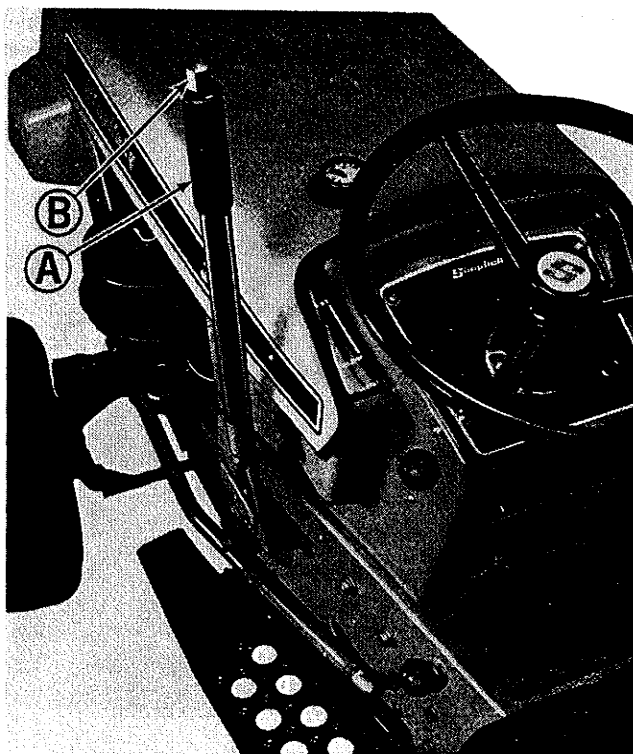

Figure 3. Manual lift lever on left side of tractor.
MANUAL LIFT LEVER: (Figure 3, item A) The lift lever is used for lifting mounted attachments, such as the rotary mower, or the tiller out of the operating position so they can be transported. You can also regulate the operating height of attachments, such as the grader blade, and snow thrower, by using the notches and pin holes provided. The thumb button (B) on top of the handle is provided to disengage the catch from the quadrant so the lever can be moved forward or back as desired and locked into position. See the owners manual for any attachment you may be using with the tractor for specific information on how the lift lever should be used.